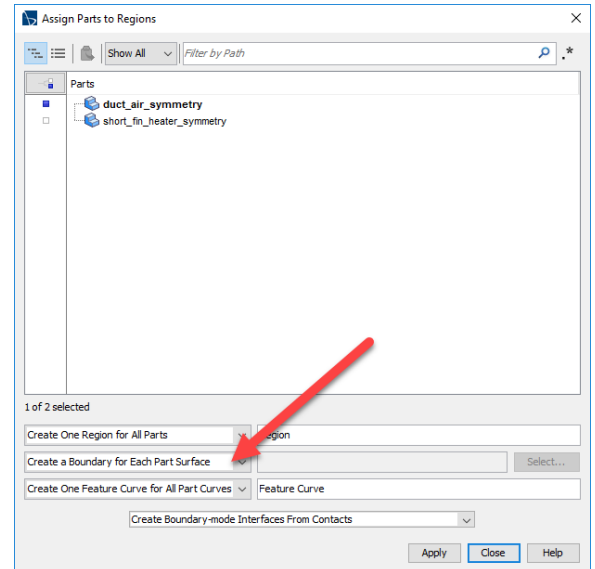

Figure 8 Assign the air duct part to a Region.
- IMPORTANT: As shown in Figure 8, set the middle pop-up menu on the left to *Create a boundary for each part surface*.